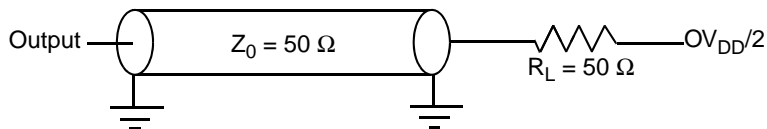

Figure 22. Local Bus C Test Load
- All outputs are measured from the midpoint voltage of the falling/rising edge of t_{TCLK} to the midpoint of the signal in question. The output timings are measured at the pins. All output timings assume a purely resistive 50-Ω load (see Figure 22). Time-of-flight delays must be added for trace lengths, vias, and connectors in the system.
- The symbols used for timing specifications herein follow the pattern of $t_{(first\ two\ letters\ of\ functional\ block)(signal)(state)}$ (reference)(state) for inputs and $t_{(first\ two\ letters\ of\ functional\ block)(reference)(state)(signal)(state)}$ for outputs. For example, t_{JTDVKH} symbolizes JTAG device timing (JT) with respect to the time data input signals (D) reaching the valid state (V) relative to the t_{JTG} clock reference (K) going to the high (H) state or setup time. Also, t_{JTDXKH} symbolizes JTAG timing (JT) with respect to the time data input signals (D) went invalid (X) relative to the t_{JTG} clock reference (K) going to the high (H) state. Note that, in general, the clock reference symbol representation is based on three letters representing the clock of a particular functional. For rise and fall times, the latter convention is used with the appropriate letter: R (rise) or F (fall).